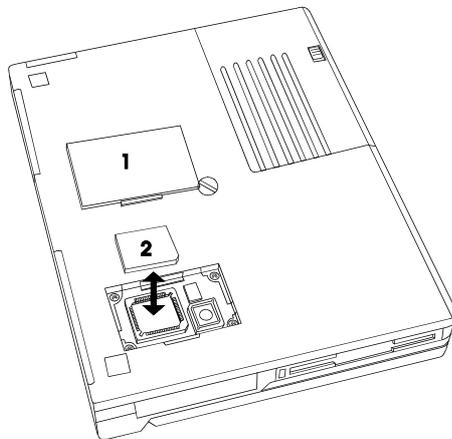

Figure 2-7. Numeric Coprocessor Disassembly/Reassembly
2. Remove the coprocessor protection cover (Figure 2-7 #1) by inserting a flat screwdriver into the groove along the side and levering it up.
3. With an extraction tool, carefully pull the coprocessor (Figure 2-7 #2) out of its socket.
1. Orientate the coprocessor (Figure 2-7 #2) so that the beveled corner aligns with the beveled corner on the socket.
3. Replace the protection cover (Figure 2-7 #1).